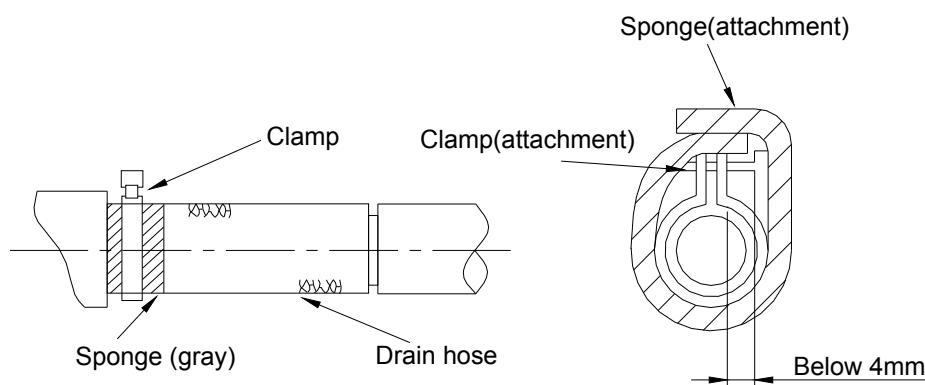

Figure 1-1-9
- ◆ Purchase general-purpose hard PVC pipe locally to be used as the drainage pipeline. When carrying out connection, place the end of the PVC pipeline into the drainage hole. Use flexible drainage tube and tighten it clamp. Never use adhesive to connect the drainage hole and the flexible drainage tube. (As shown in Figure 1-1-9)